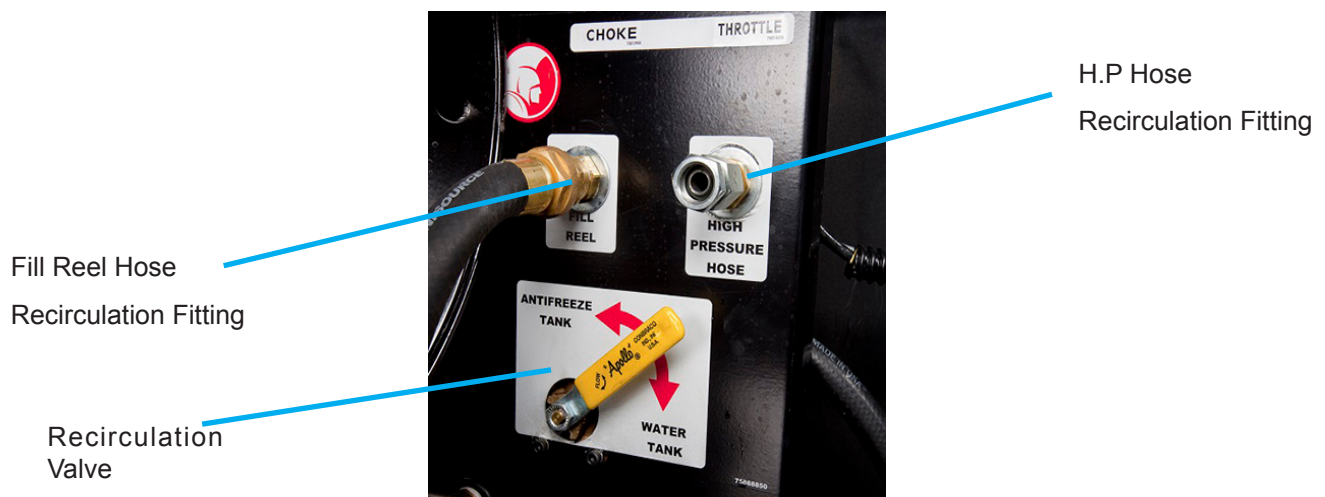

Fig. 20.2
3. Fill hose and H.P. hose are connected to their respective recirculation fittings (Fig.20.2).